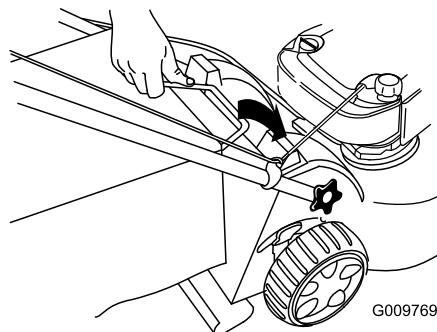

**Figure 30**
2. Route the starter rope around the lower-rope guide (Figure 30).